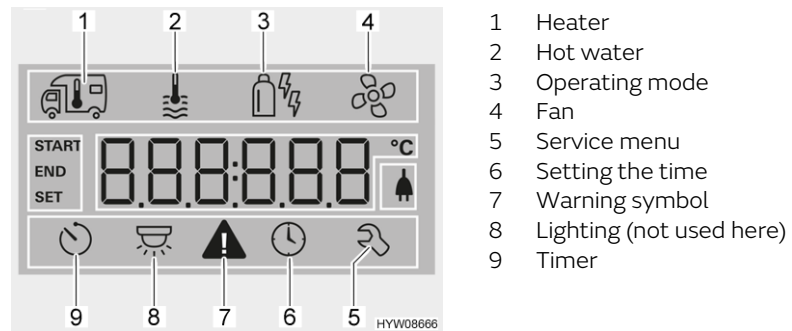

Fig. 82 Display (operating unit)
- Turn rotary push button (Fig. 81,6) until the heater menu symbol (Fig. 82,1) flashes.
- Turn rotary push button (Fig. 81,6) until the hot water menu symbol (Fig. 82,2) flashes.
- Turn rotary push button (Fig. 81,6) until the menu symbol operating mode (Fig. 82,3) flashes.
- Turn rotary push button (Fig. 81,6) until the fan menu symbol (Fig. 82,4) flashes.
- Turn rotary push button (Fig. 81,6) until the timer menu symbol (Fig. 82,9) flashes.
- Press rotary push button. The timer is activated. The timer symbol (Fig. 82,9) flashes when the timer is programmed and active.
The warning symbol (Fig. 82,7) flashes in the event of a warning. The heater continues to operate. In the event of only a temporary fault, the warning symbol goes out automatically.